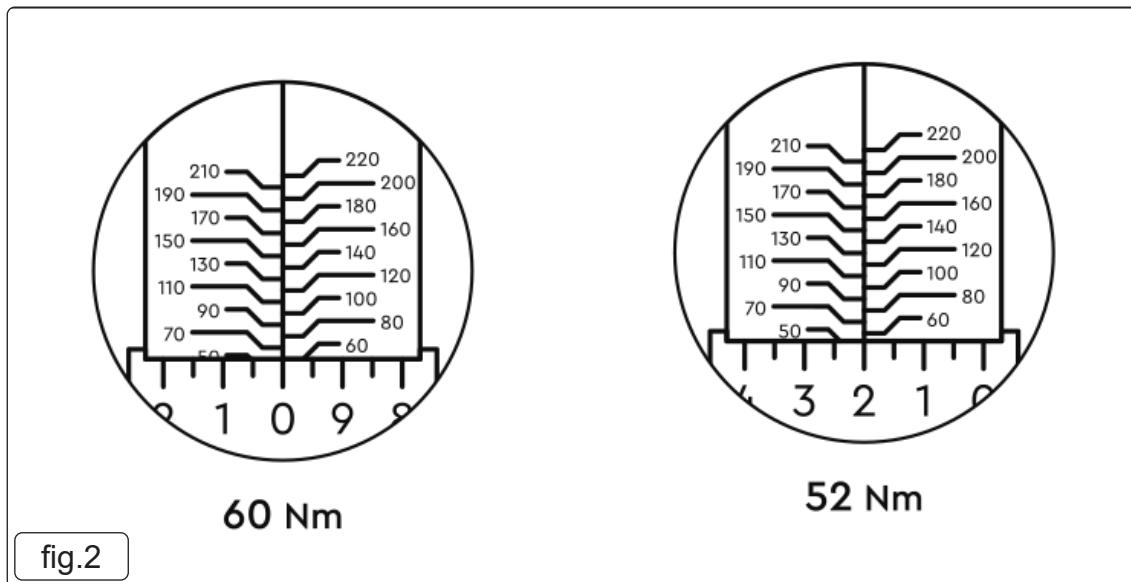

fig.2
4.2. SETTING TORQUE VALUE (fig.1, fig.2)
- 4.2.1. With the adjuster unlocked (fig.1), rotate the handle to reach the main scale value i.e. 60 Nm (fig.2) aligned with collar value 0.
- 4.2.2. To set the torque to more discrete values i.e. 52 Nm (fig.2) align main scale to 50 and then rotate collar value to 2 (fig.2).